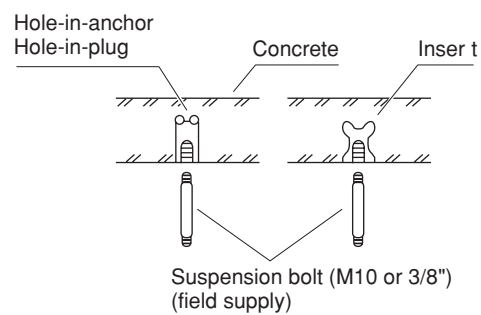

Fig. 3-115
- Insert suspension bolts as shown in Fig. 3-115 or
- (2) Screw in the suspension bolts allowing them to protrude from the ceiling as shown in Fig. 3-115. (Cut the ceiling material, if necessary.)